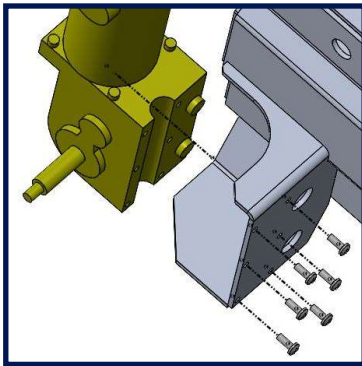

Figure 2
2. Once the brake is removed, remove the six socket head screws that hold the outer clamping plate to the motor. This plate will not be used and can be discarded. Keep the socket head screws that were removed and use them to mount the motor to the chassis. Use Loctite to keep the screws from vibrating loose. See **Figure 2**.